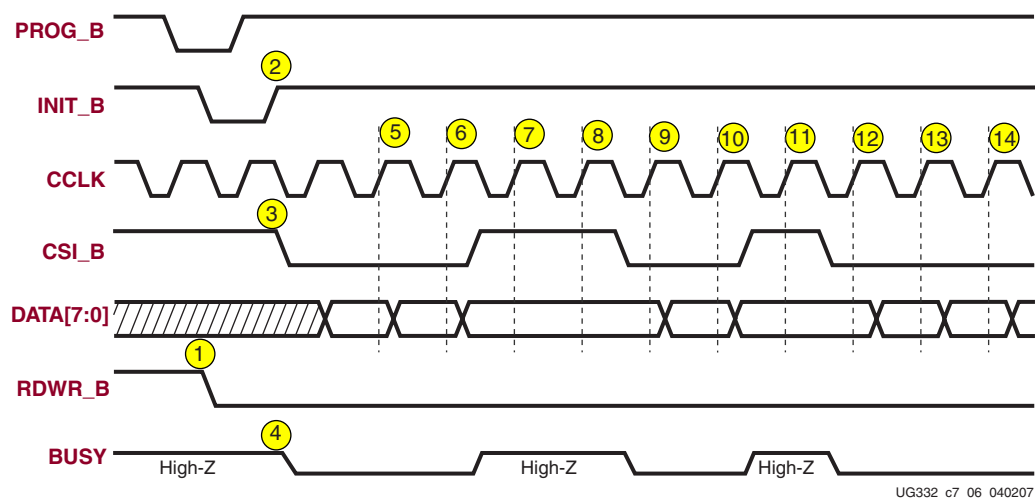

Figure 7-6: SelectMAP Non-Continuous Data Loading with Controlled `CSI_B`
1. Deassert the `CSI_B` signal with a free-running `CCLK`, shown in Figure 7-6 and described in “Deasserting `CSI_B`,” page 173.
The following numbered items correspond to the markers provided in Figure 7-6.